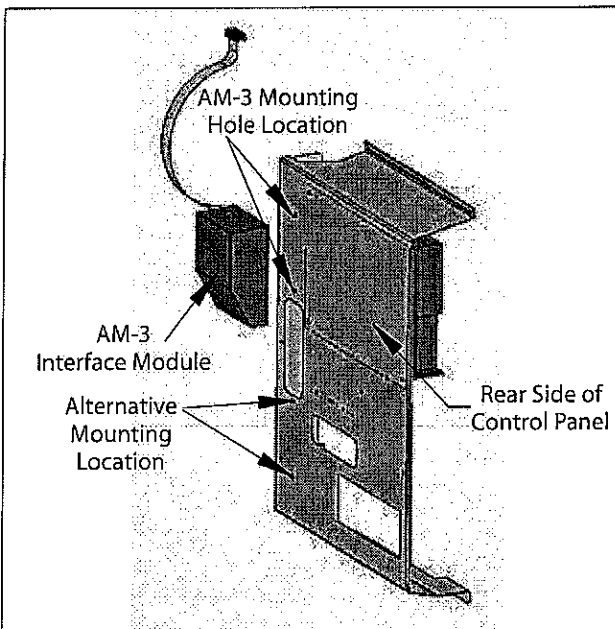

Fig. 6 : Mounting the AM-3 Interface Module
7. Place the AM3 on the backside of the control panel as shown in Fig. 6, page 6. Align the mounting holes of the AM3 with the upper or lower clearance holes along the hinged side of the control panel. Secure the AM3 module using the two screws provided in the AM3 kit from the front of the control panel as shown in Fig. 6, page 6.